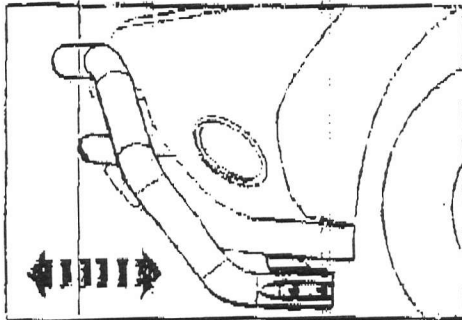

Fig. 14
14. Adjust the Bumper Bar forward or back to get an even gap around the vehicle. (10mm (3/8") minimum) (See Fig. 14)